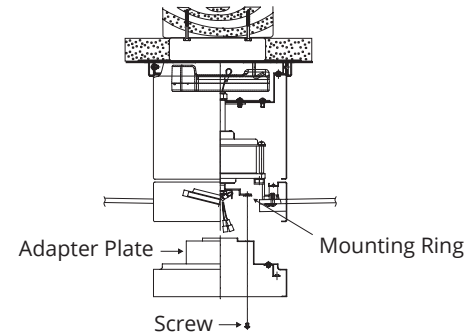

FIG. 20
2. Place the key holes in the mounting plate over the two screws previously loosened from the mounting ring. Turn the mounting plate until the adapter plate locks in place at the narrow section of the key holes (**FIG. 20**).